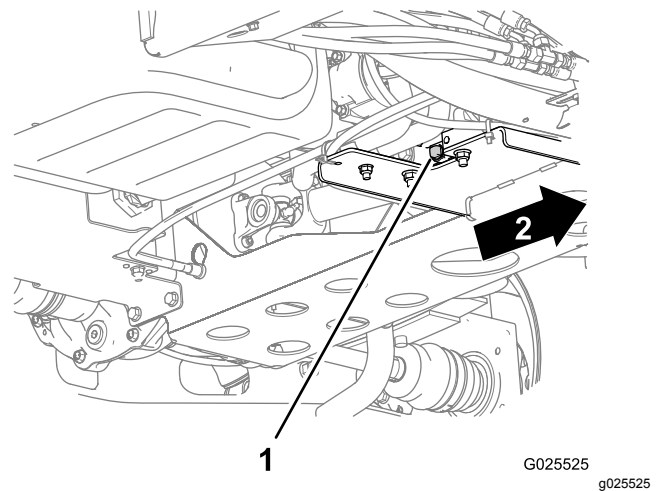

Figure 44
2. Align a large drain pan under the oil-drain plug (Figure 44).
3. Remove the drain plug and let the oil flow into a drain pan (Figure 44).